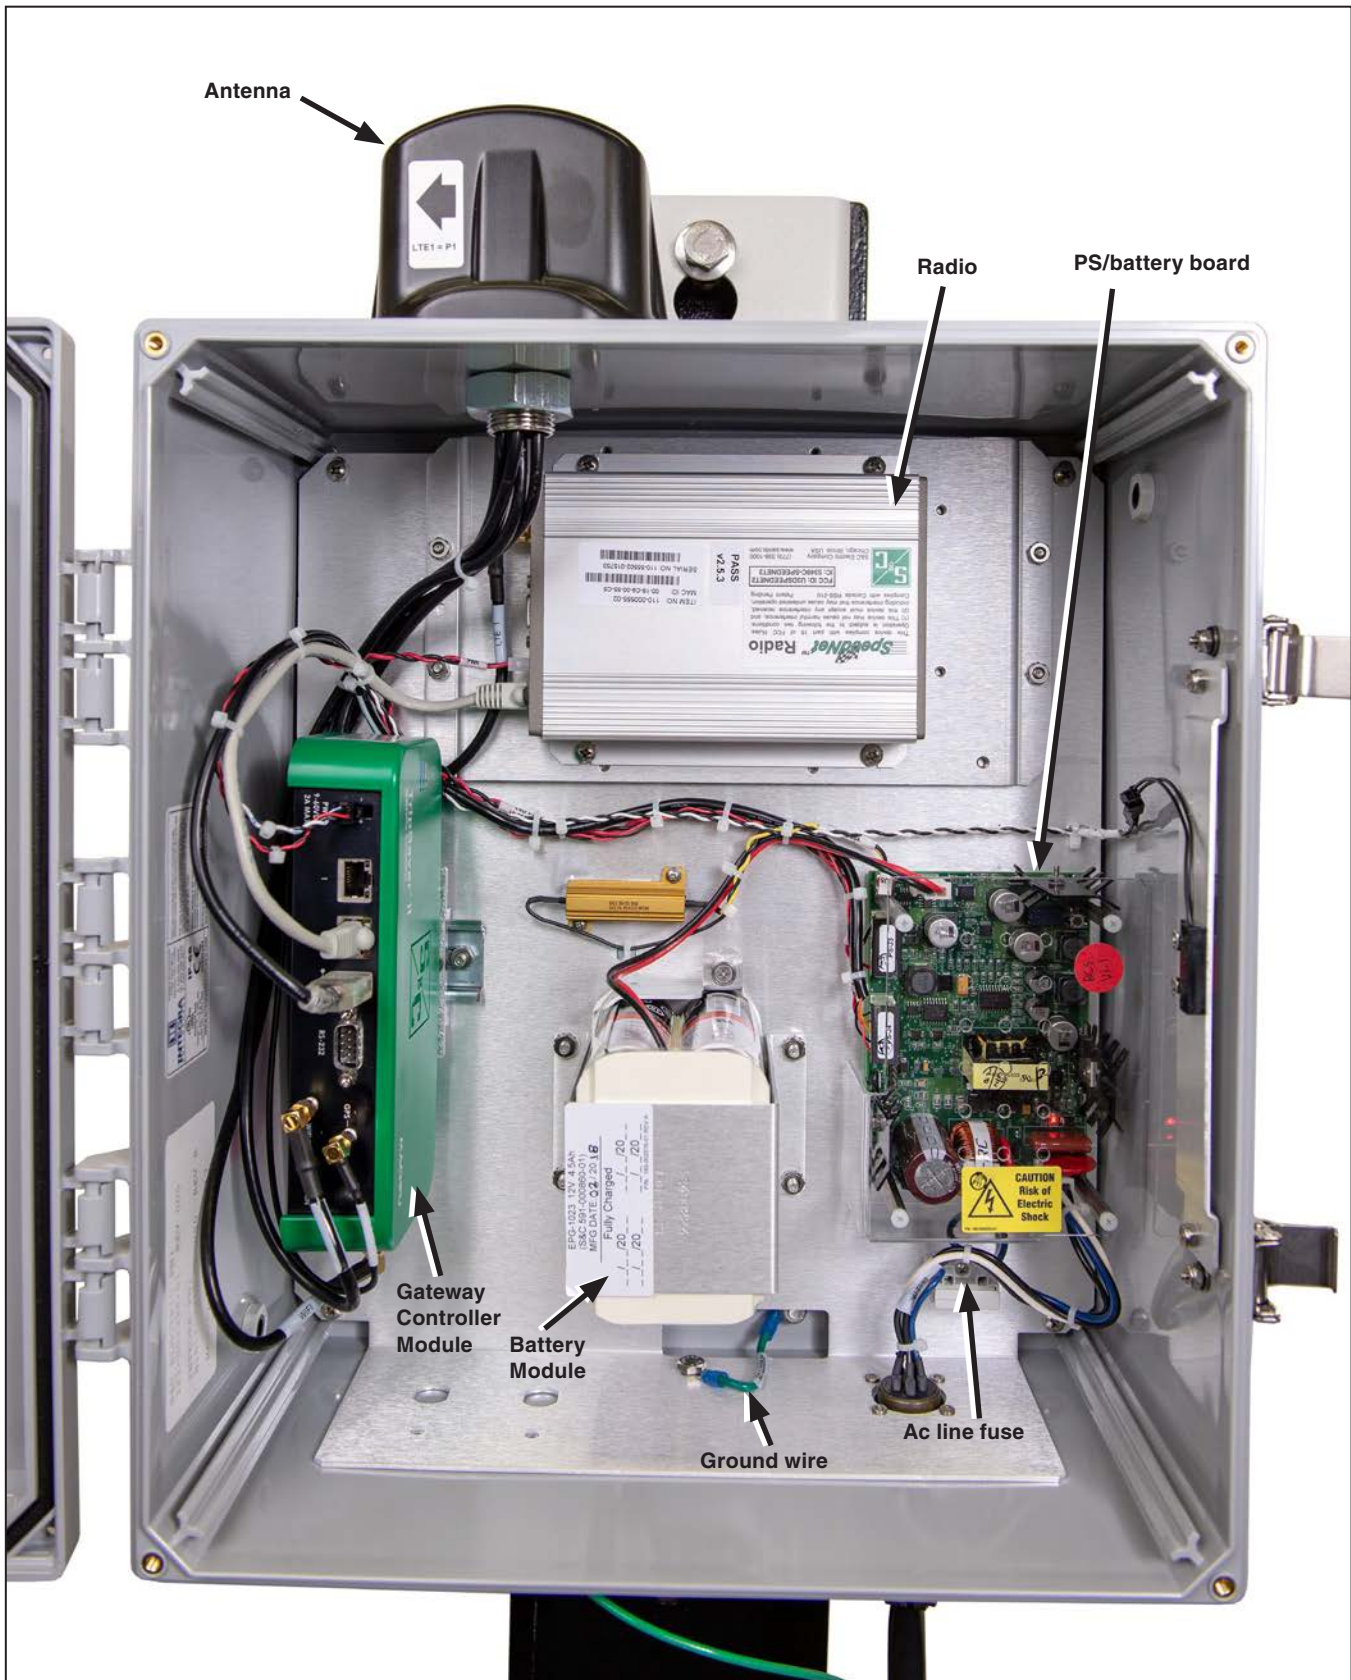

Figure 1. The TripSaver II Communications Gateway.
- STEP 5.** After a short delay, LEDs on the PS/battery board and the gateway controller should light up, indicating the communications gateway is receiving power. See Figure 1 on page 8 and Figure 3.